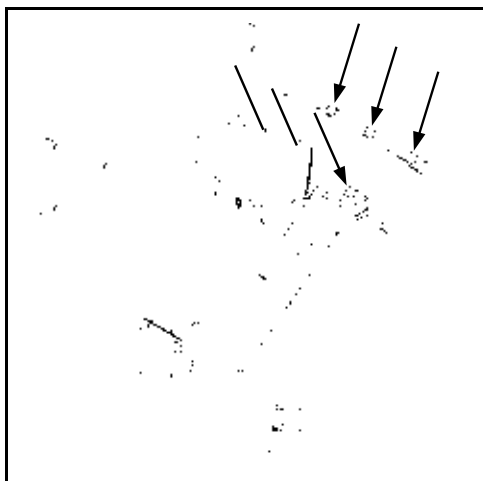

FIG 4.3
3. Loosen the leg mounting bolts on both the front and rear legs on one side of the sprayer only (fig. 4.3).